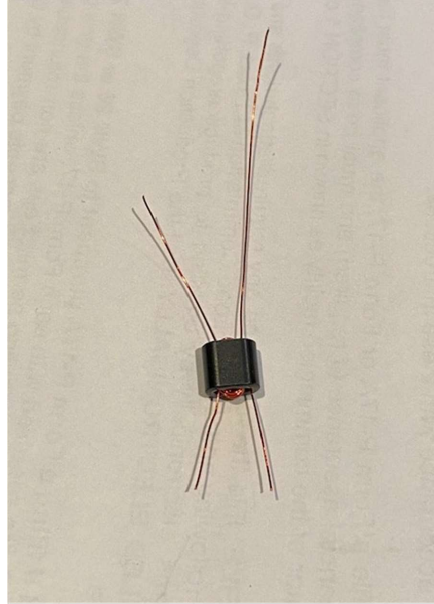

Figure 14. T2 Transformer Secondary Completed – 6T of #30 Magnet Wire.
- iv. On the other side of the core, leave about a 1" lead and wind six turns (6T) This is the secondary of the transformer. Clearly mark the primary and the secondary. See Figure 14.